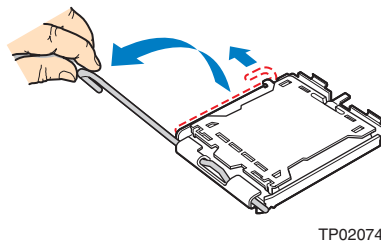

Figure 12. Lifting the Processor Socket Handle
5. Locate the processor socket and raise the socket handle completely (see Figure 12).